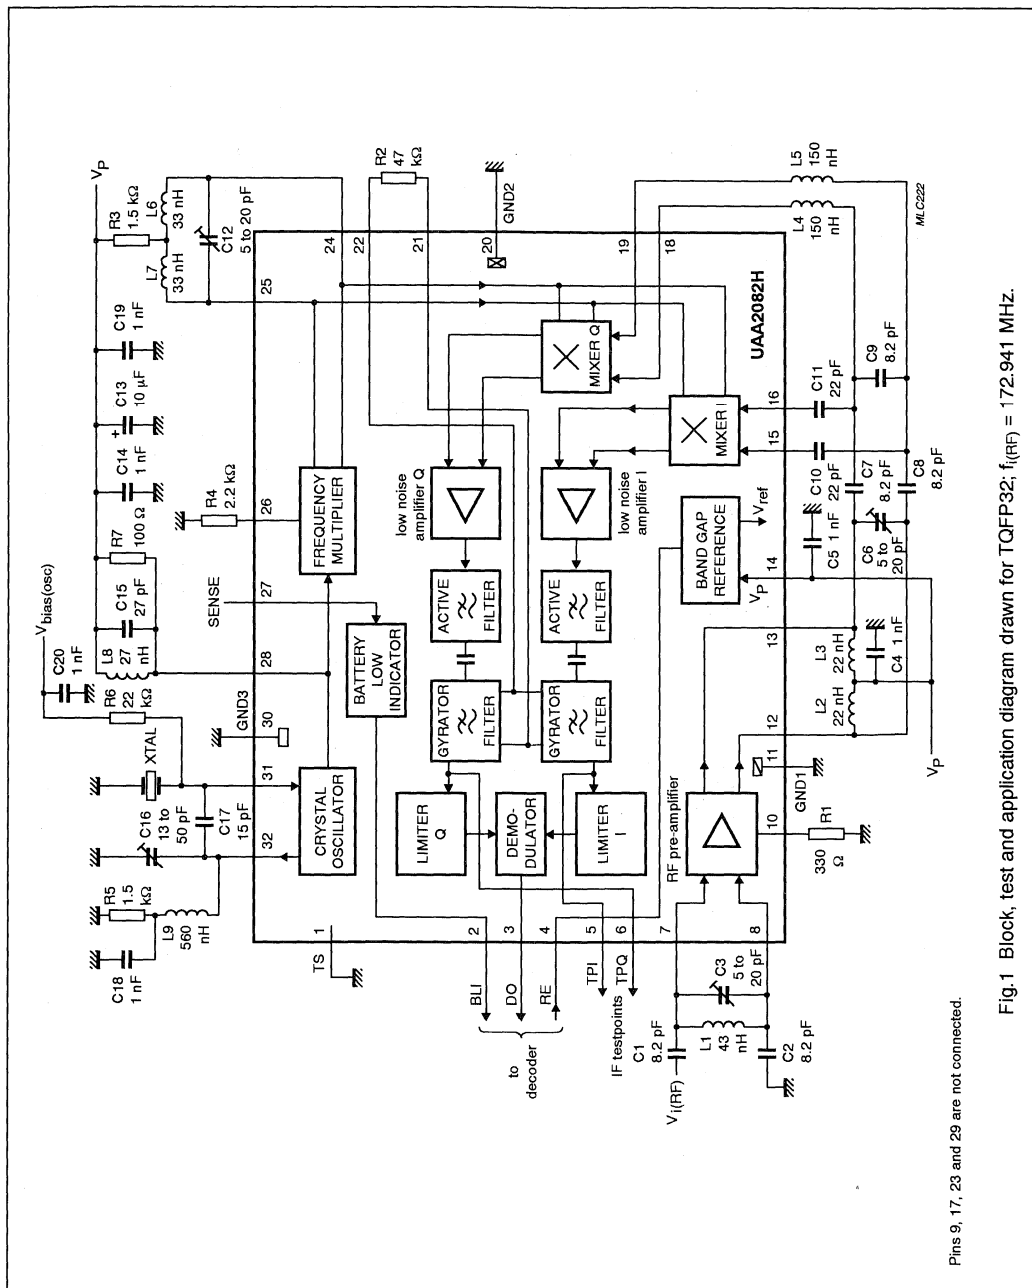

Fig. 1 Block, test and application diagram drawn for TQFP32; fi(RF) = 172.941 MHz.
**Table 1** Tolerances of components shown in Figs 1 and 2 (notes 1 and 2)